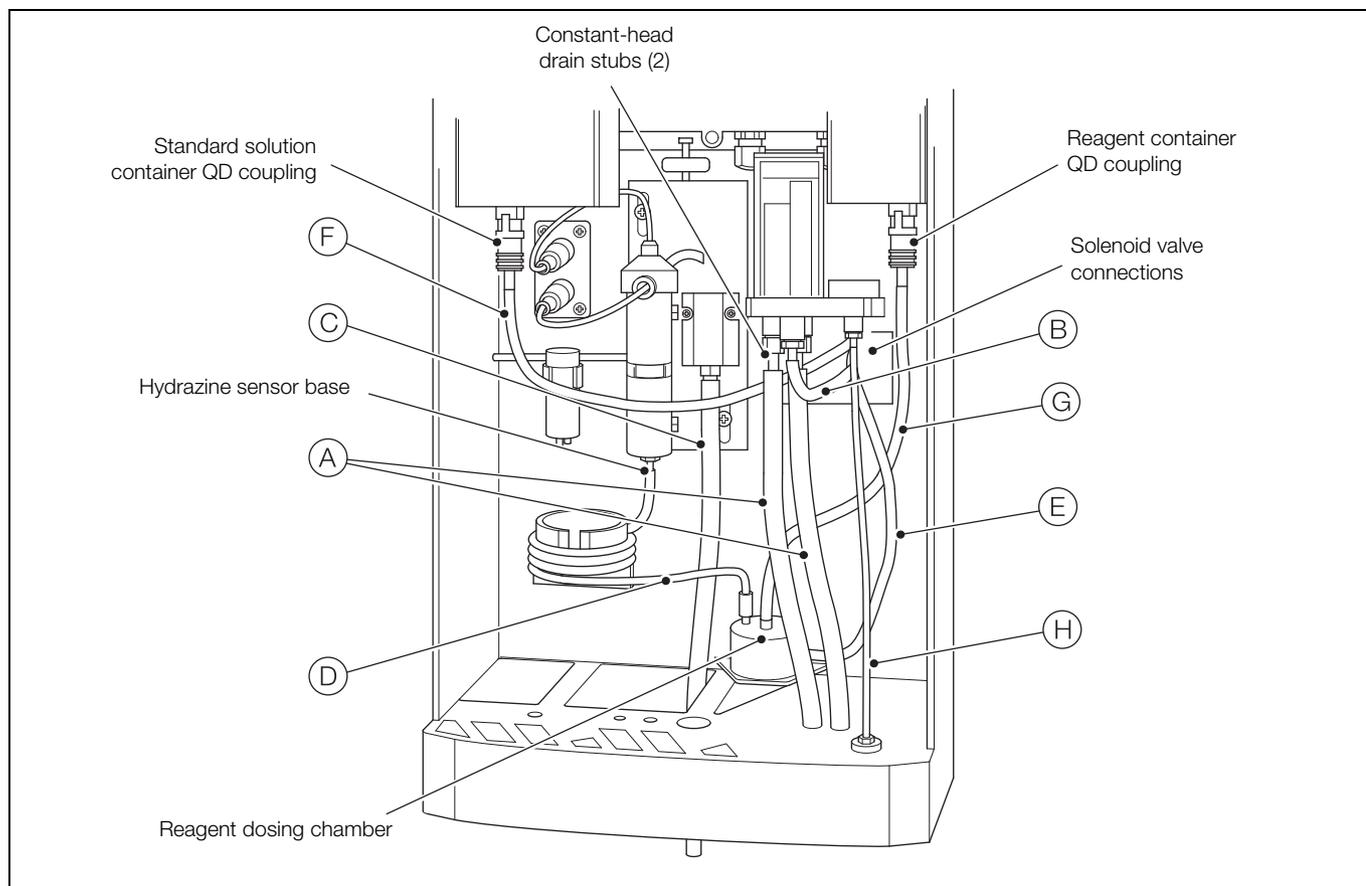

Fig. 8.3 Removing / Replacing tubing in wet-section
Referring to Fig. 8.3, page 56:
5. Disconnect the QD coupling on the reagent container (see Fig. 8.3, page 56) and remove the reagent container. Either empty the contents into a storage container or discard, rinse out the container and replace in the wet-section.
6. Clean the porous disc by attaching a piece of tubing to the reagent dosing chamber outlet and place the other end in a beaker of high purity water. Clamp the reagent dosing chamber sample inlet tube – refer to Section 8.2.4, page 54, item (E).